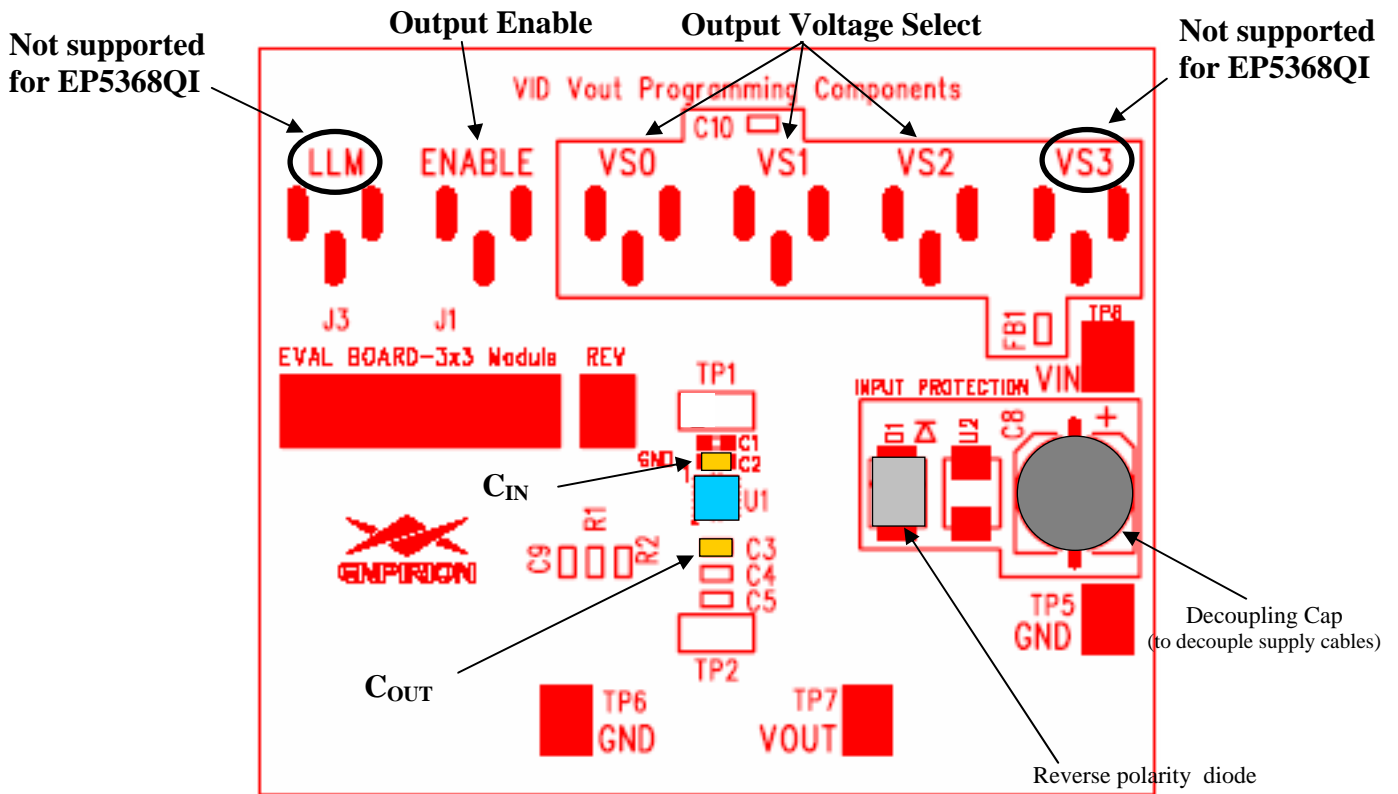

Figure 1: Evaluation Board Layout. This board is used for multiple Enpirion 3x3 products. Some of the functions are not supported in all of these products.
This application note describes how to test the EP5368QI converter using the Enpirion 3x3 Module EVAL BOARD shown in Fig. 1. In addition to this document you will also need the device datasheet.
STEP 2: Connect a power supply to the input test points, TP8 (+) and TP5 (-) as indicated in Figure 1. The same test points can also be used to measure the input voltage.
STEP 4: Connect the load to the output connectors TP7 (+) and TP6 (-), as indicated in Figure 1. The same test points are also used to measure the DC output voltage.